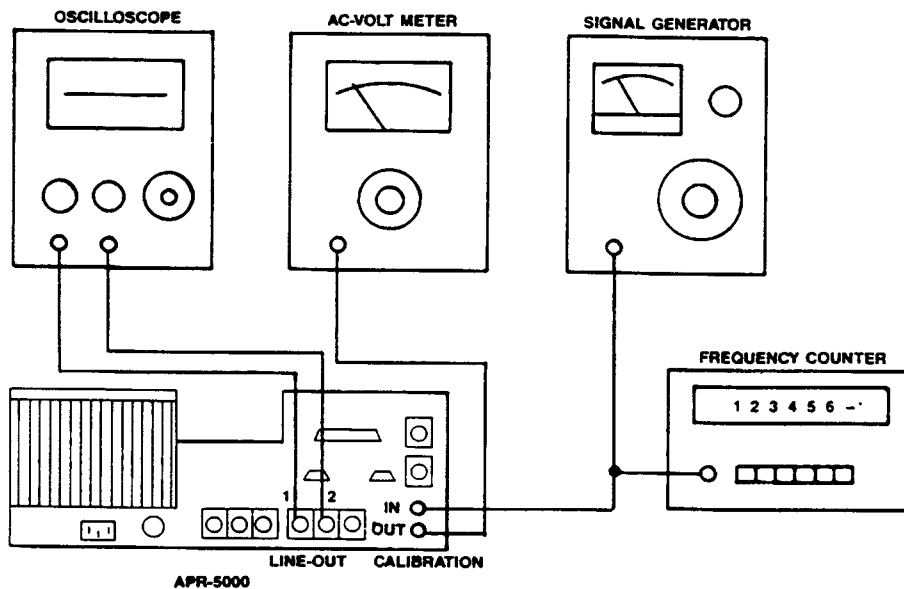
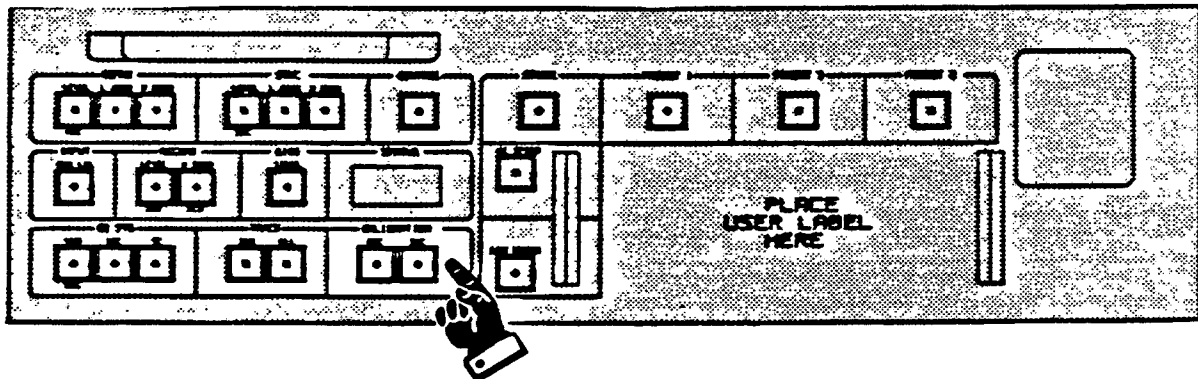

Figure 6-22. Connection of Test Equipment
Figure 6-29. INC & DEC Key Location
The APR-5000 was designed with the service engineer in mind. The connections for the necessary test equipment are provided on the rear panel of the machine. The test equipment is connected as shown in Figure 6-22. As shown in this drawing, the CALibration INput (CAL IN) and CALibration OUTput (CAL OUT) connectors can be connected to permanent lines of the test equipment. Utilizing the calibration input and output connectors not only simplifies the connections, they also provide an accurate distribution amplifier on the input side and an accurate combining network on the output side. When performing the azimuth check/adjustment procedures the output of the CAL OUT connector is a summed output of all audio channels. This will provide the signal necessary to adjust the azimuth to the correct peak.
STEP 2 Connect the test equipment (Oscilloscope and ACVM) as shown in Figure 6-22.
STEP 2 Connect the test equipment as shown in Figure 6-22.
STEP 1 After performing STEPS 1 through 9 of Section 6.6.2.1, manipulate the INC and/or DEC keys in the CALIBRATION section of the ALN Panel to adjust the INPUT signal level. For this adjustment, utilize the same test equipment connection shown in Figure 6-22. Refer to Figure 6-29.